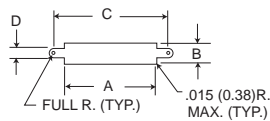
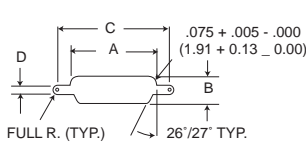

Figure 1
Figure 3 Rear Mounting
(see Figures 1 and 3)
2. Front mounting is preferred. However, when rear mounting is necessary, use figure 3 for dimensions.
5. Front mounting (Figure 1) and rear mounting (Figure 3) accommodate #2-56 screws.